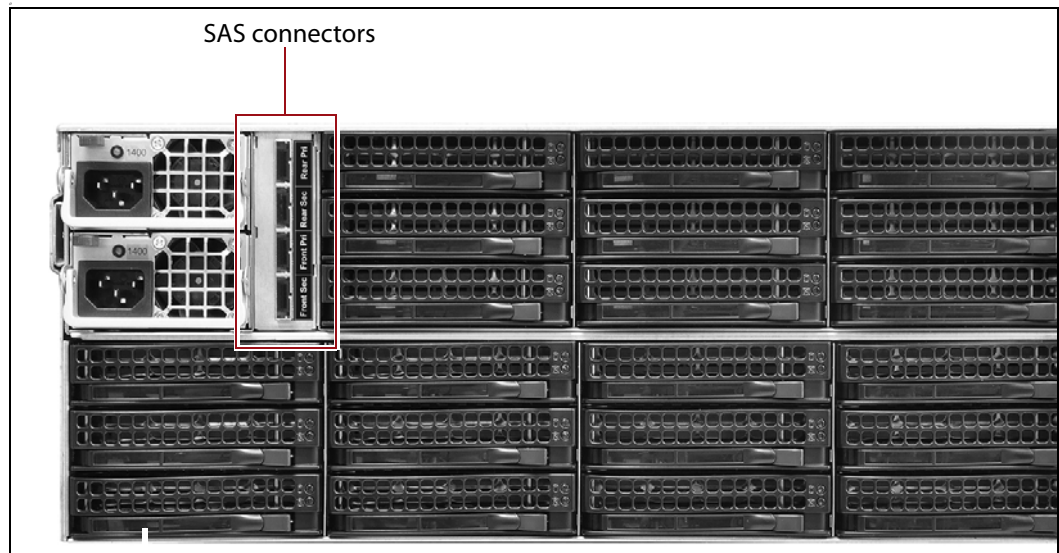

Figure 2 The SAS connectors on a expansion node.
3. Connect one of the cables to the **Front Sec** port on the first expansion node (see Figure 2 on page 12).